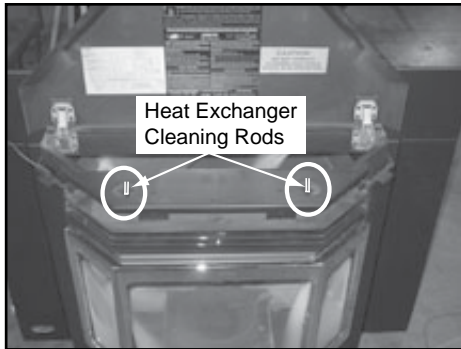

Figure 3.1
1. Lift the hopper lid to access the cleaning rods. Both black bent handle pull rods are located close to the face of the appliance to the left and right side. **Figure 3.1.**